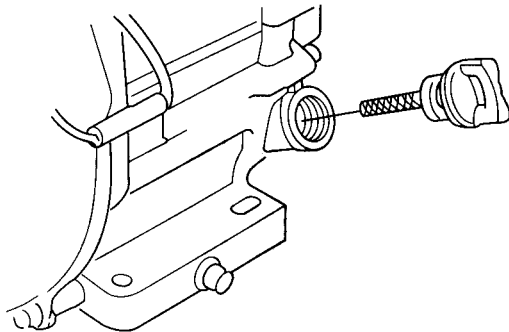

Figure 4. Engine Oil Dipstick Removal
2. Remove the filler cap/dipstick from the engine oil filler hole (Figure 4) and wipe it clean.